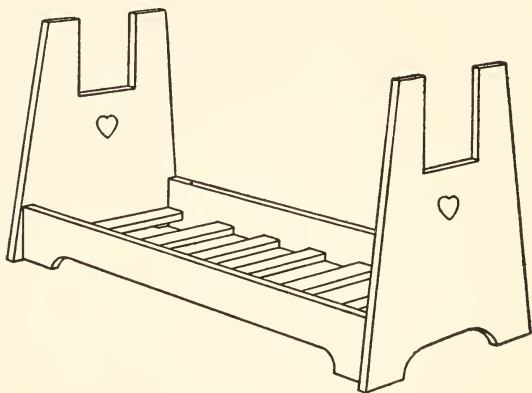

FIG. 275. — A Bed.
Now for the making of some pieces of bedroom furniture. You will find in Figs. 275 and 276 two designs that are easily carried out, one or both of which may be used for
**The Beds** of a doll-house. To make Fig. 275, cut the head and foot by means of the pattern in Fig. 265, and cut the two sides by means of the pattern in Fig. 266. After preparing these pieces and fastening them together as shown in the illustration (Fig. 275), cut a few strips a quarter of an inch wide for slats and fasten them between the sides of the bed. It is advisable to fasten these in place to prevent them from being lost.